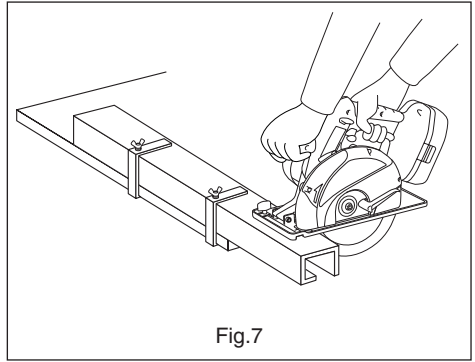

Fig.7
- Figure 7 shows proper cutting position.